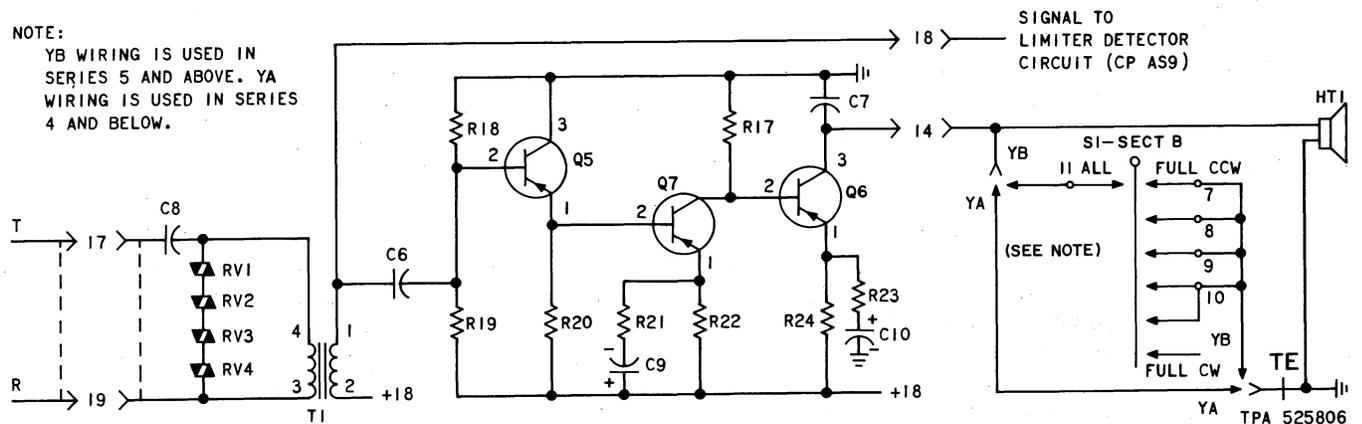

Fig. 8—Monitor Amplifier—Schematic Diagram
3.23 The monitor amplifier uses a line coupling isolation transformer (T1). The input to the monitor amplifier is capacitively coupled by C6 to the base of the emitter follower Q5. Transistor Q7, which is dc coupled to Q5, has its ac gain controlled by R21 and C9. Transistor Q6 drives the externally mounted HT1 receiver. Figure 8 shows a schematic diagram of the monitor amplifier. ♦On later model sets (series 4 and above), the ACU is placed in the monitor mode by removing the short across the monitor speaker HT1 by a breaking contact on the ACR timer select switch.♦